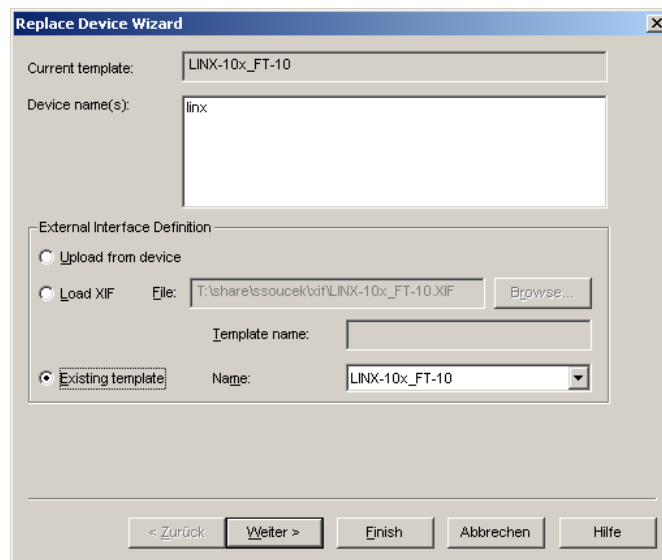

Figure 94: LonMaker replace device wizard.
2. Select **Commissioning** → **Replace....** This opens the LonMaker Replace Device Wizard as shown in Figure 94.